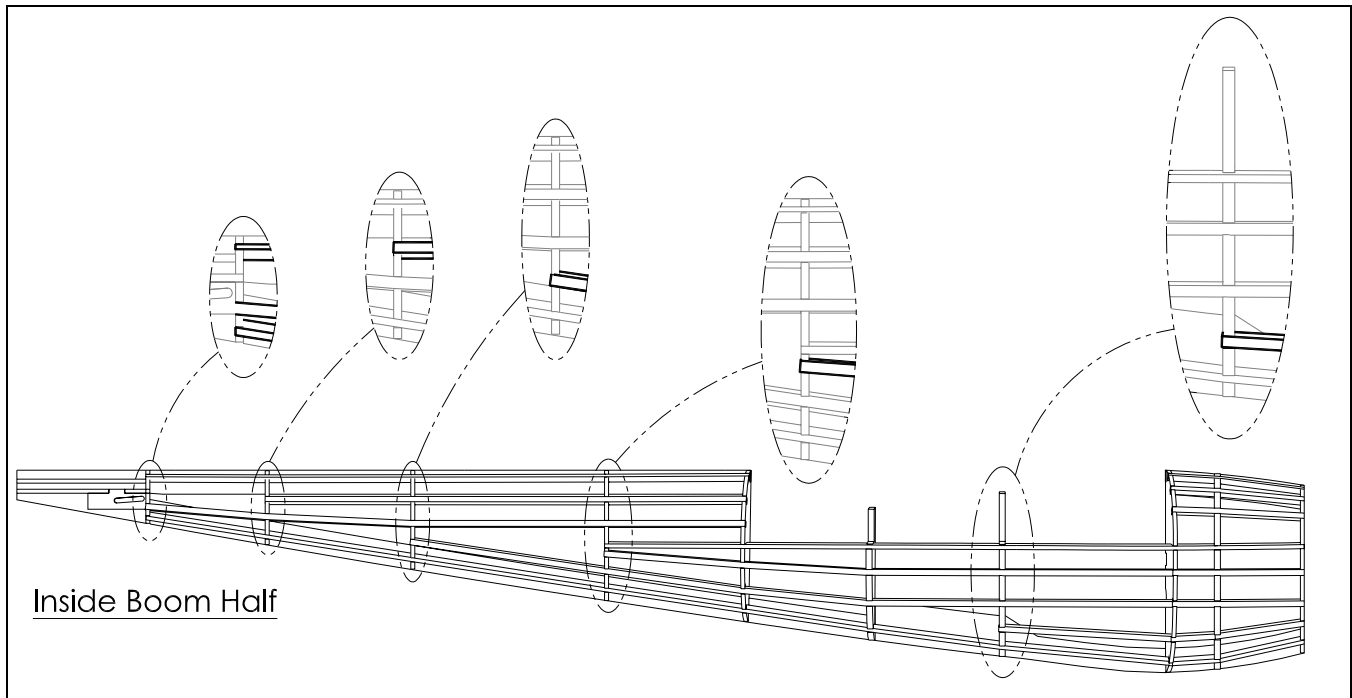

Figure 6
- ❑ Glue **3/32" SQ. Balsa Stringers** to the boom formers as shown in Figure 6 and the plans. Figure 6 illustrates important areas of the boom where stringers end.